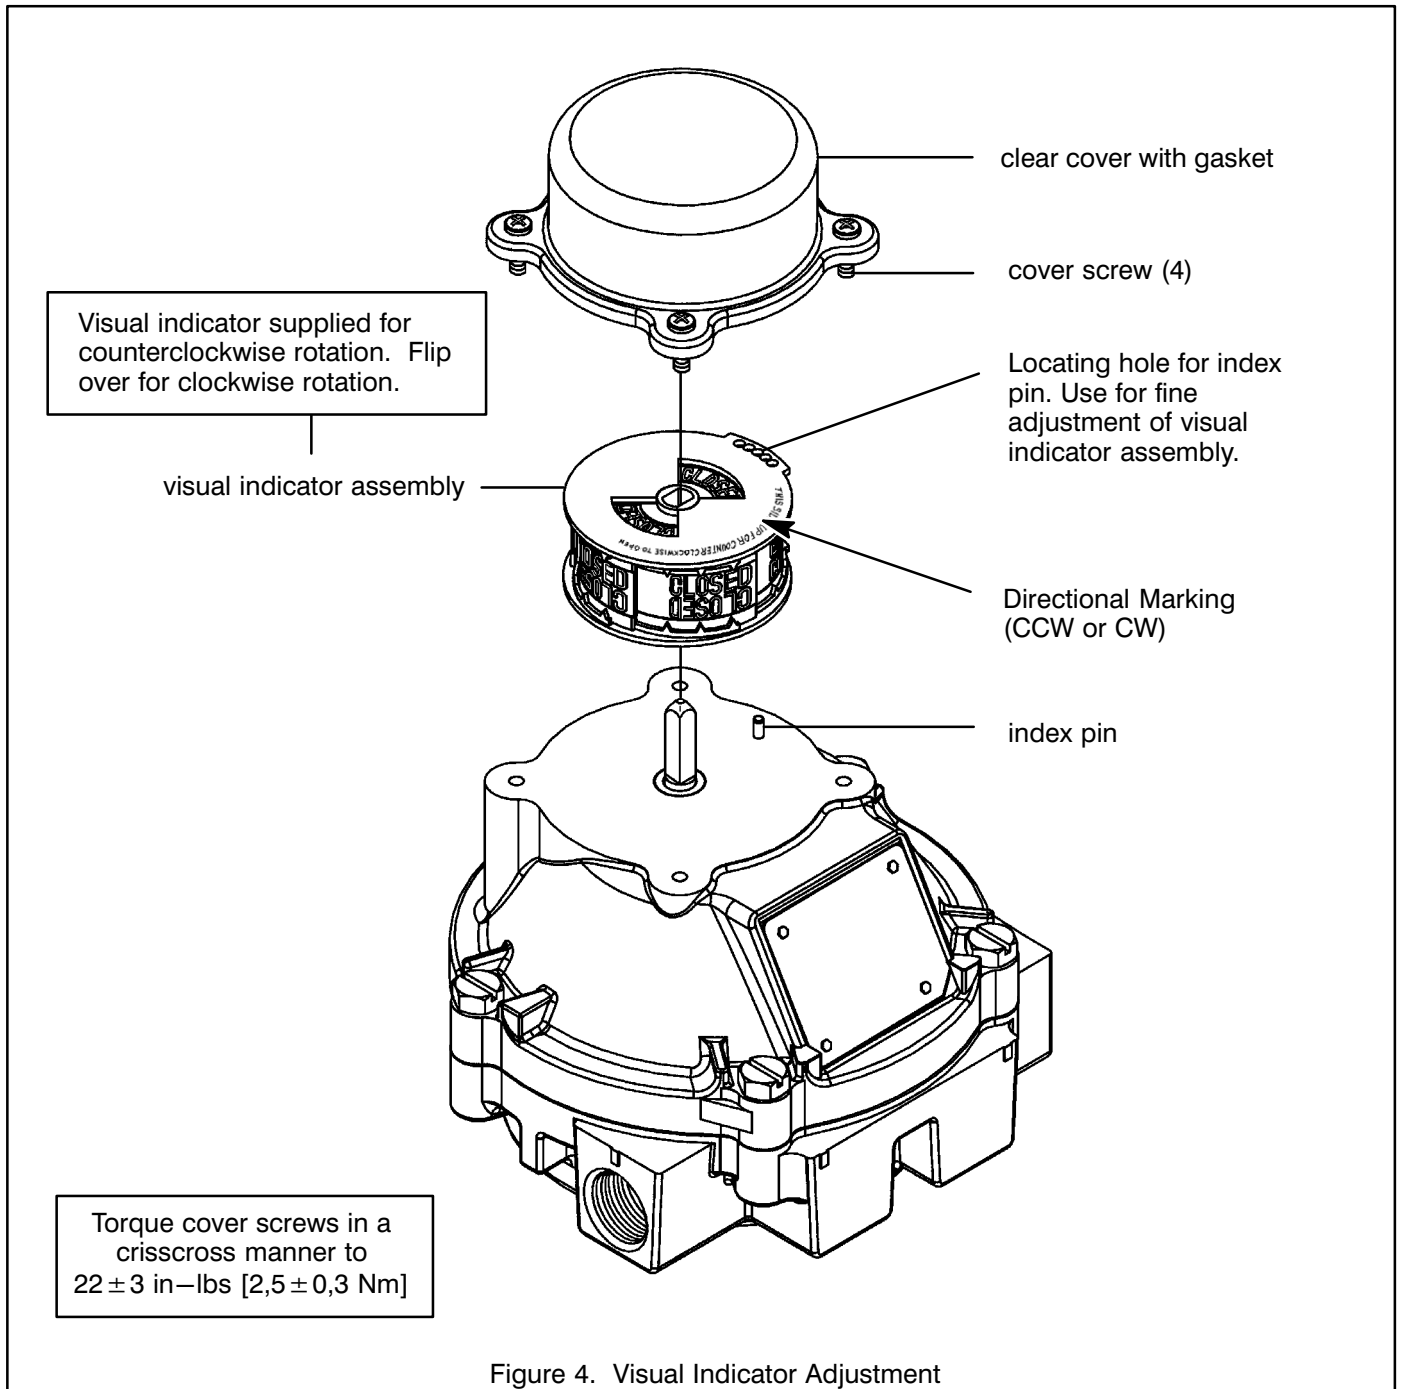

Figure 4. Visual Indicator Adjustment
3. If the true valve position and the position of the position indicator are not synchronized, loosen cover screws and remove clear cover with gasket and screws. Refer to Figure 4.